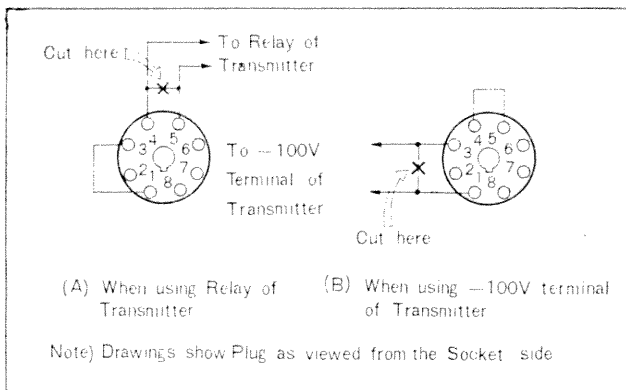

Figure 4 — Connections for Remote Control
When a receiver is used in conjunction with a transmitter, the ordinary practice is to use the standby switch of the transmitter to control the receiver. Connections should be made as shown in Figure 4 (A) when only the relay circuit is available at the transmitter. Connections should be made as shown in Figure 4 (B) when a -100 volt C bias is available at the transmitter side for making the receiver inoperative during transmission.